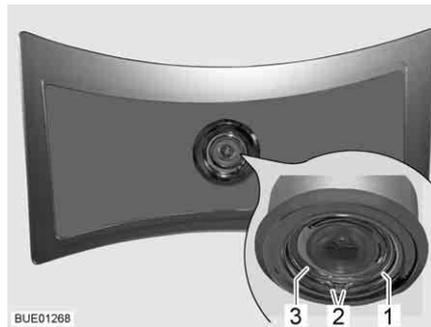

Fig. 206 Ceiling lamp
- Press the two ends (Fig. 206,2) of the spring ring (Fig. 206,1) together and remove.
- Remove the housing (Fig. 206,3) with LED from the lamp.